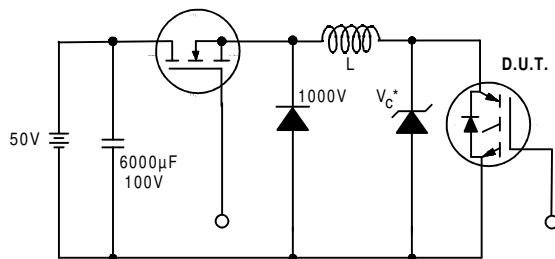

Figure 19. Clamped Inductive Load Test Circuit
- ②  $V_{CC}=80\%$  ( $V_{CES}$ ),  $V_{GE}=20V$ ,  $L=10\mu H$ ,  $R_G = 50\Omega$  (figure 19)
- ③ Pulse width  $\leq 80\mu s$ ; duty factor  $\leq 0.1\%$ .
- ④ Pulse width  $5.0\mu s$ , single shot.